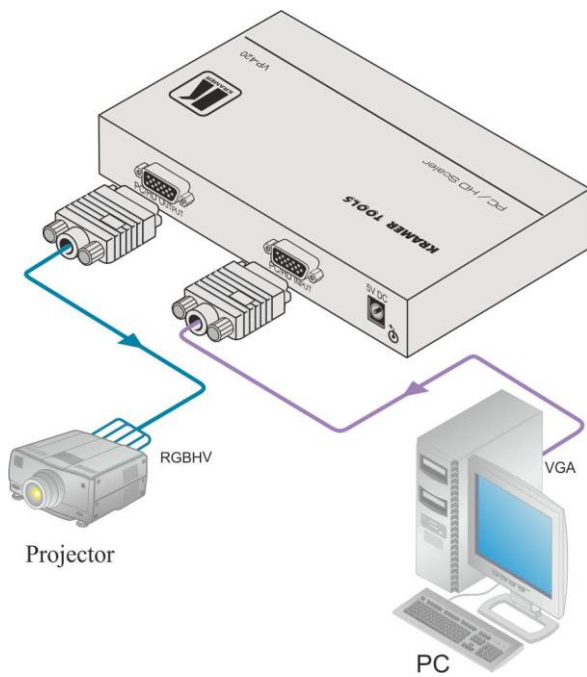

Figure 3: Connecting the VP-420 PC/HD Scaler
To connect the **VP-420, VP-421** as illustrated in the example in Figure 3:
4. Connect the 5V DC power adapter to the power socket and connect the adapter to the mains electricity (not shown in Figure 3).